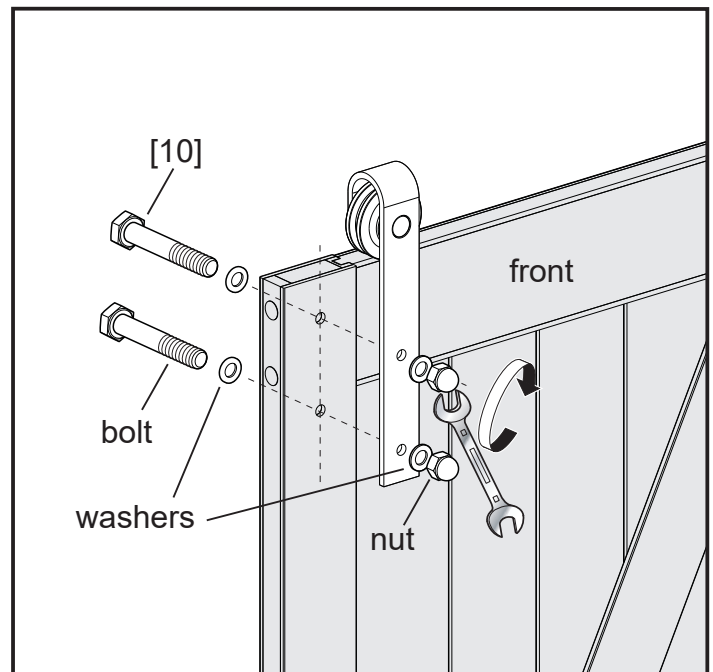

Fig 9
1. Install **Top Mount Rollers [09]** to the front of the door and secure it with **Bolt assembly [10]** using 16mm & 17mm Wrenches as figure shows. (Fig 9)